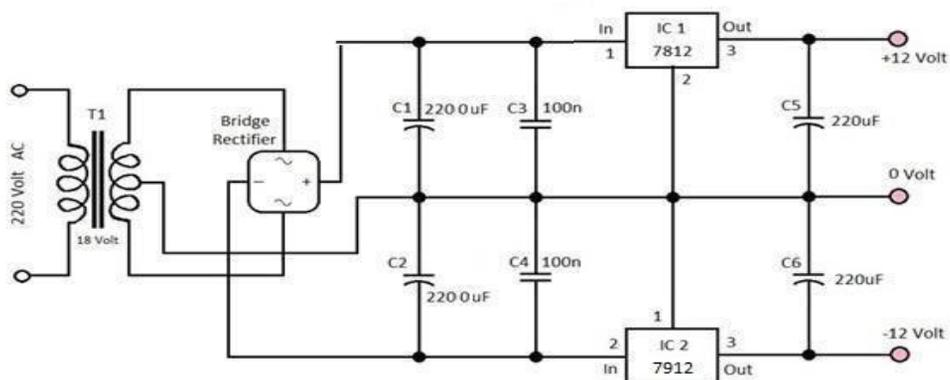

Figure 25.2: Dual voltage regulator
1. Connect the circuit as in figure 25.2